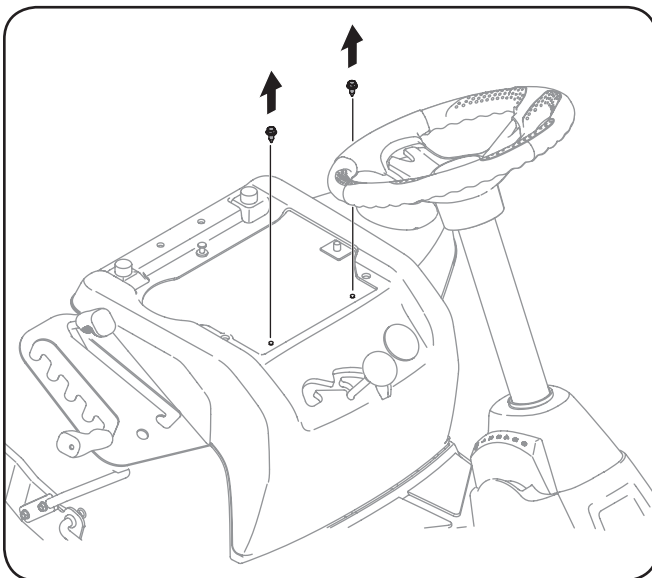

Figure 3-4
- Using a 1/4-inch drive ratchet with a 3/8" socket, remove the two self-tapping bolts factory installed on the tractor. See Figure 3-4.